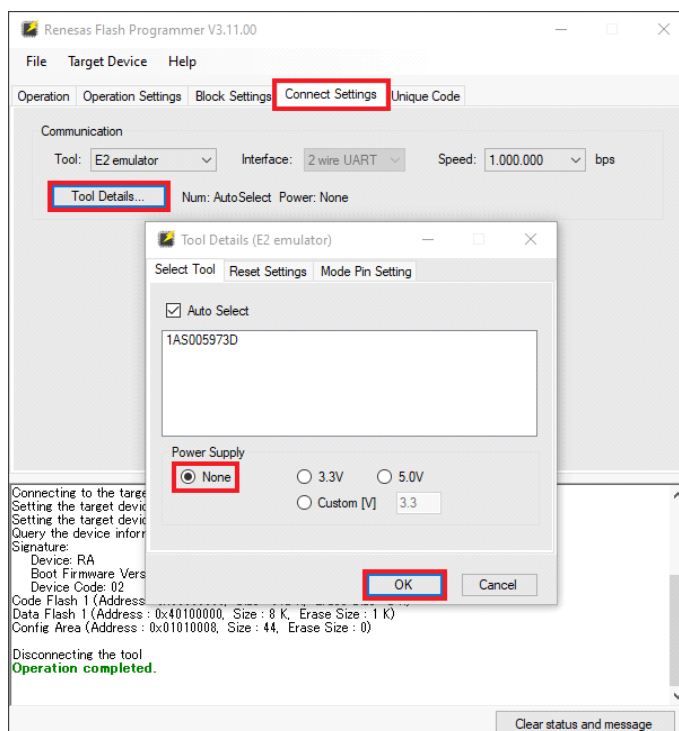

Figure 7. Connection Settings in Renesas Flash Programmer
6. Select the **Connect Settings** tab and click on the **Tool Details...** button (Figure 7). In the pop-up window, verify that option **None** is selected in the **Power Supply** section. Click on the **OK** button to close the pop-up window.